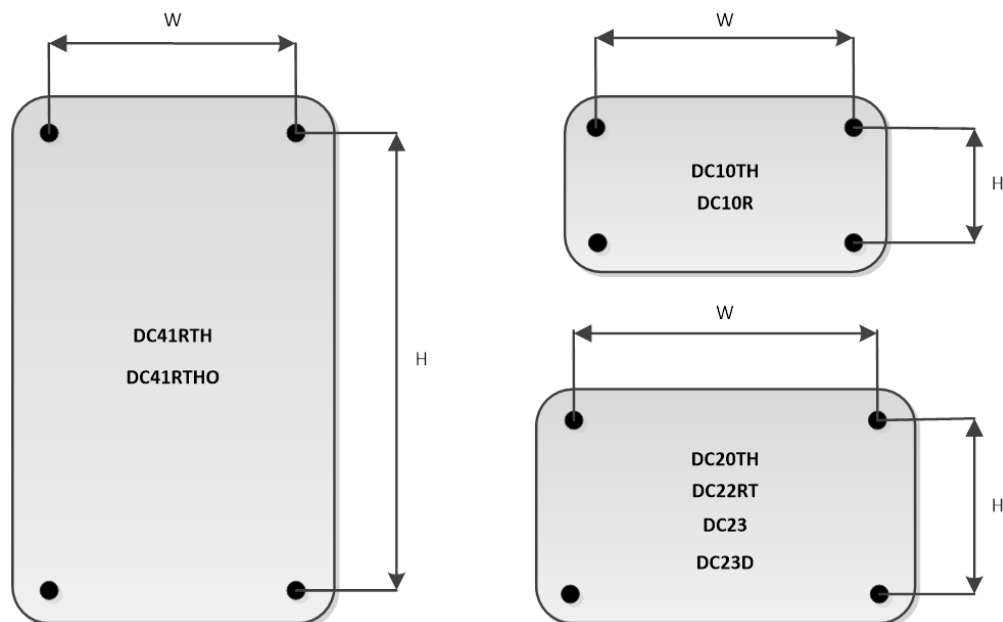

Fig. 3.1 Formats by diplay Model
- 1) **Hanged:** Identify the display model in the Fig. 3.1 and place 2 of those supplied at the distance W indicated on the Board 3.1, allowing the screw head to protrude by about 4 mm. Hang the display through the top slot following the zig-zag.